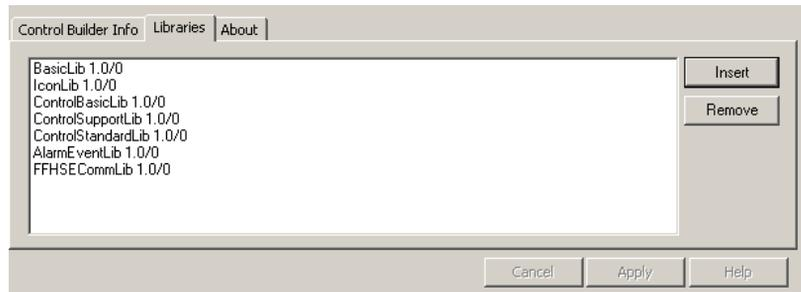

Figure 17. List of Libraries added to the Control Builder Project
7. The FFHSECommLib now appears in the list of libraries available in your project (see Figure 17).